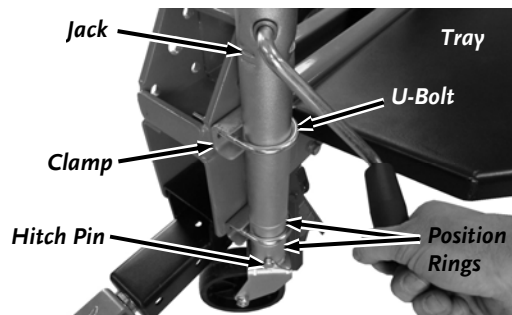

Figure 10
13. Install the Jack, Spacers and U-Bolts with the lower Clamp and U-Bolt located between the two positioning rings of the Jack Housing (**Figure 10**).